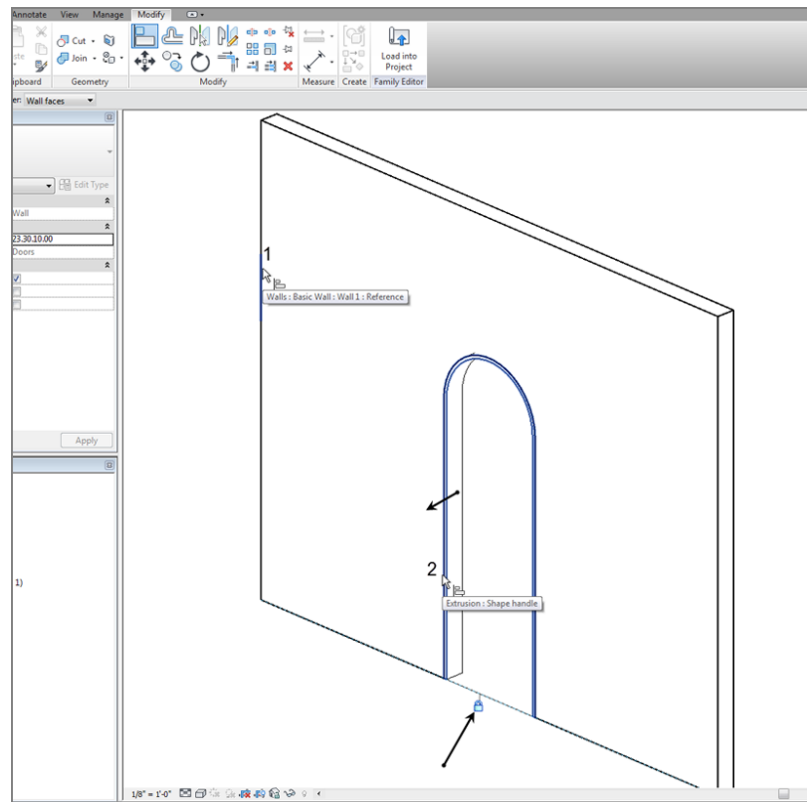

FIGURE 17.19: Aligning and locking the inside face of the jamb to the wall
15. Set Extrusion End to -3" (-75mm), as shown in Figure 17.19.
2. Click the Align button on the Modify tab, as shown in Figure 17.19.